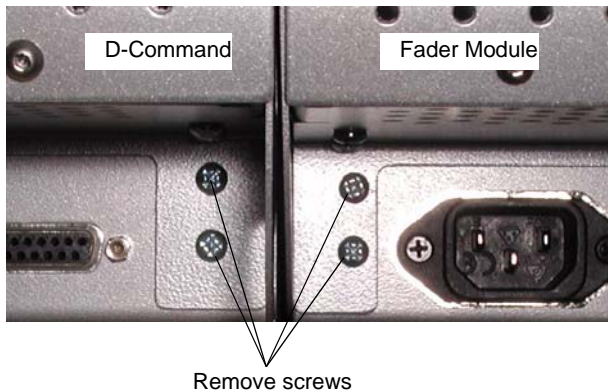

Figure 6. Rear view of D-Command and Fader Module
- 7 Remove the four Philips head screws indicated in Figure 6.